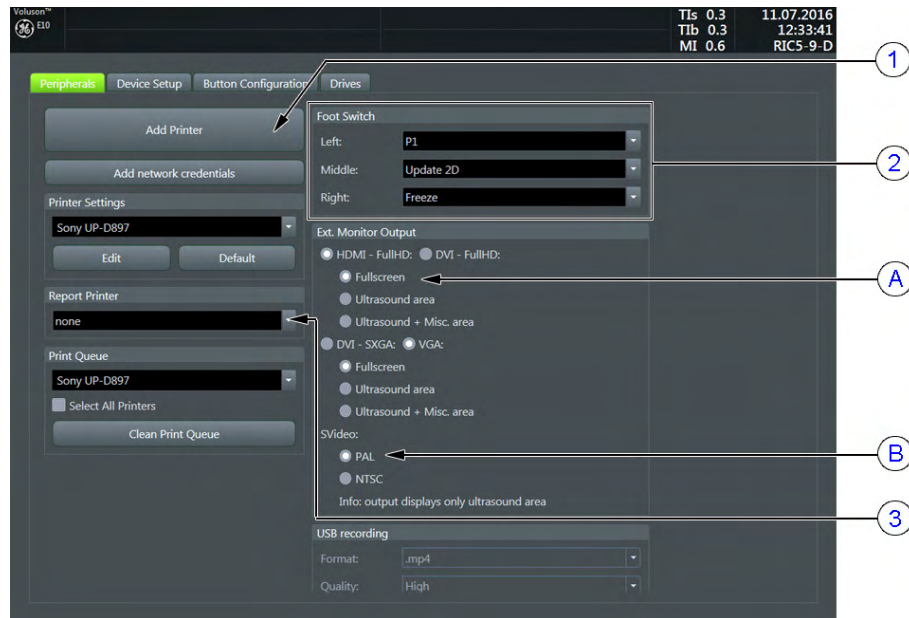

Figure 3-28 Setup - Connectivity - PERIPHERALS page
Note *Optionally the Printer Remote Control can be done by the Foot switch; see Figure 3-28 on page 3-37.*
1. Click on the **Peripherals** tab; see Figure 3-28 on page 3-37.